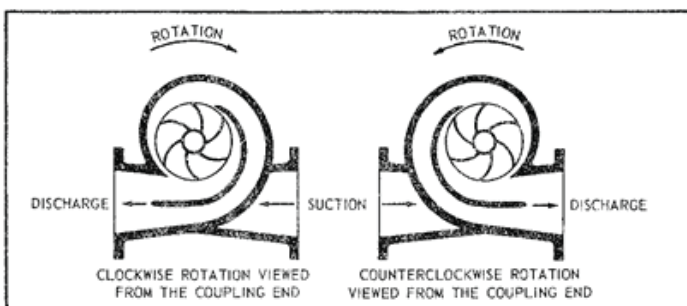

Fig. 3. — Correct Relationship of Impeller and Casing
1. Place both shaft sleeve keys (3-911-3) and the impeller key (3-911-1) in the shaft (3-007-0).
2. Check the impeller (4-002-0) and casing to determine the correct impeller rotation (See Figure 3) and locate the impeller on the shaft.